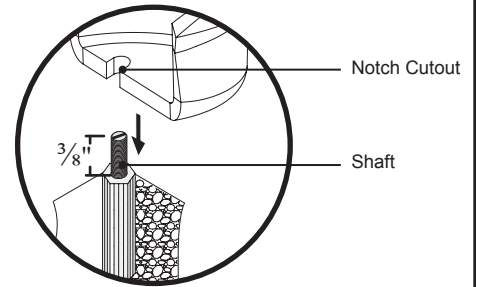

Figure 11. Anchoring the Slipper Bathtub
- ❶ Lift the Double Ended bathtub, with legs attached.
- ❷ Slowly lower the unit down onto the ground, making sure that the shafts and notch cutouts align properly (Figure 11).